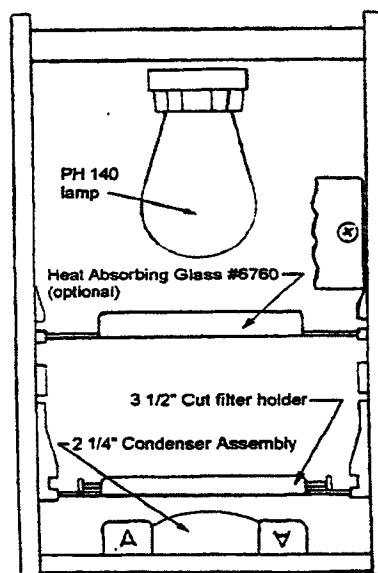
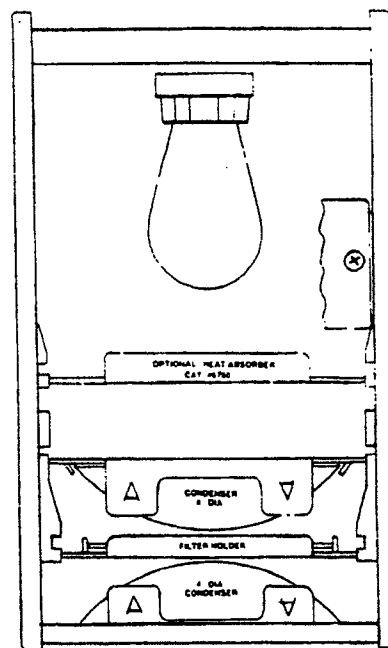

Fig. 5
Fig. 9
- J. If you have the condenser lamphouse, remove the lamphouse door by sliding it up and out of its track. Install the condensers and filter holder as indicated in Figure 9 (for the Printmaker 67) or figure 5, p3 (for the Printmaker 35).
To set up the Printmaker 35, follow the instructions on page 2 in section III, items A-I and item K. When installing the single 2 1/4" condenser assy (item J), insert it into the bottom of the lamphouse as shown in figure 5.